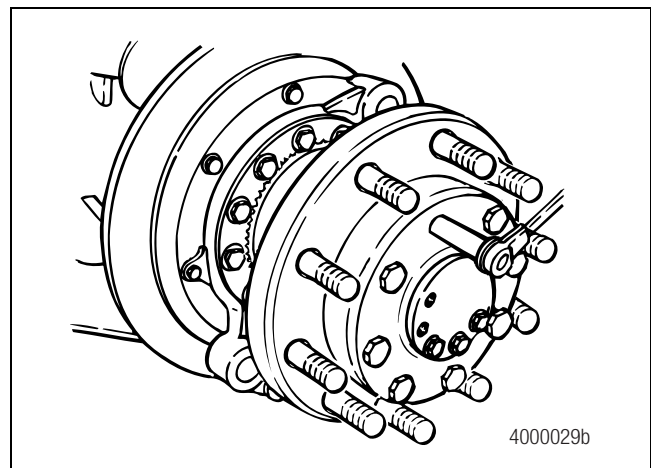

Figure 3.6
3. Remove the capscrews and washers that connect the drive flange to the wheel hub. Figure 3.6.